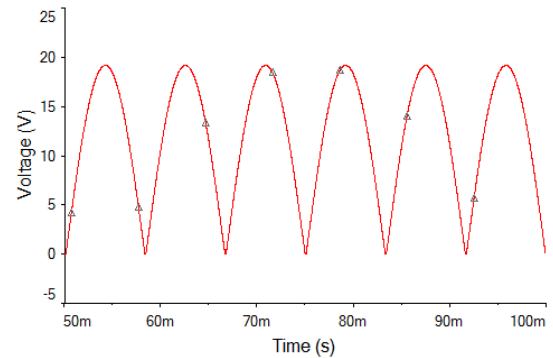

Fig. 4: The rectifier output at V\_LOAD should look something like this.
- Use MATLAB’s “swave” command to save a scope trace (e.g. jpg or emf file) for your report (should look like Fig. 4).